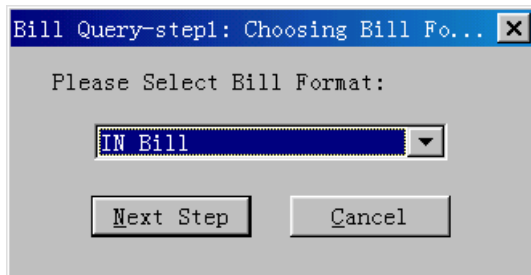

Figure 3-13 [Bill Query-step1: Choosing Bill Format] dialog box
- 1) In the CDR file list window, right-click and select [Bill Query]. A dialog box as shown in Figure 3-13 is displayed.